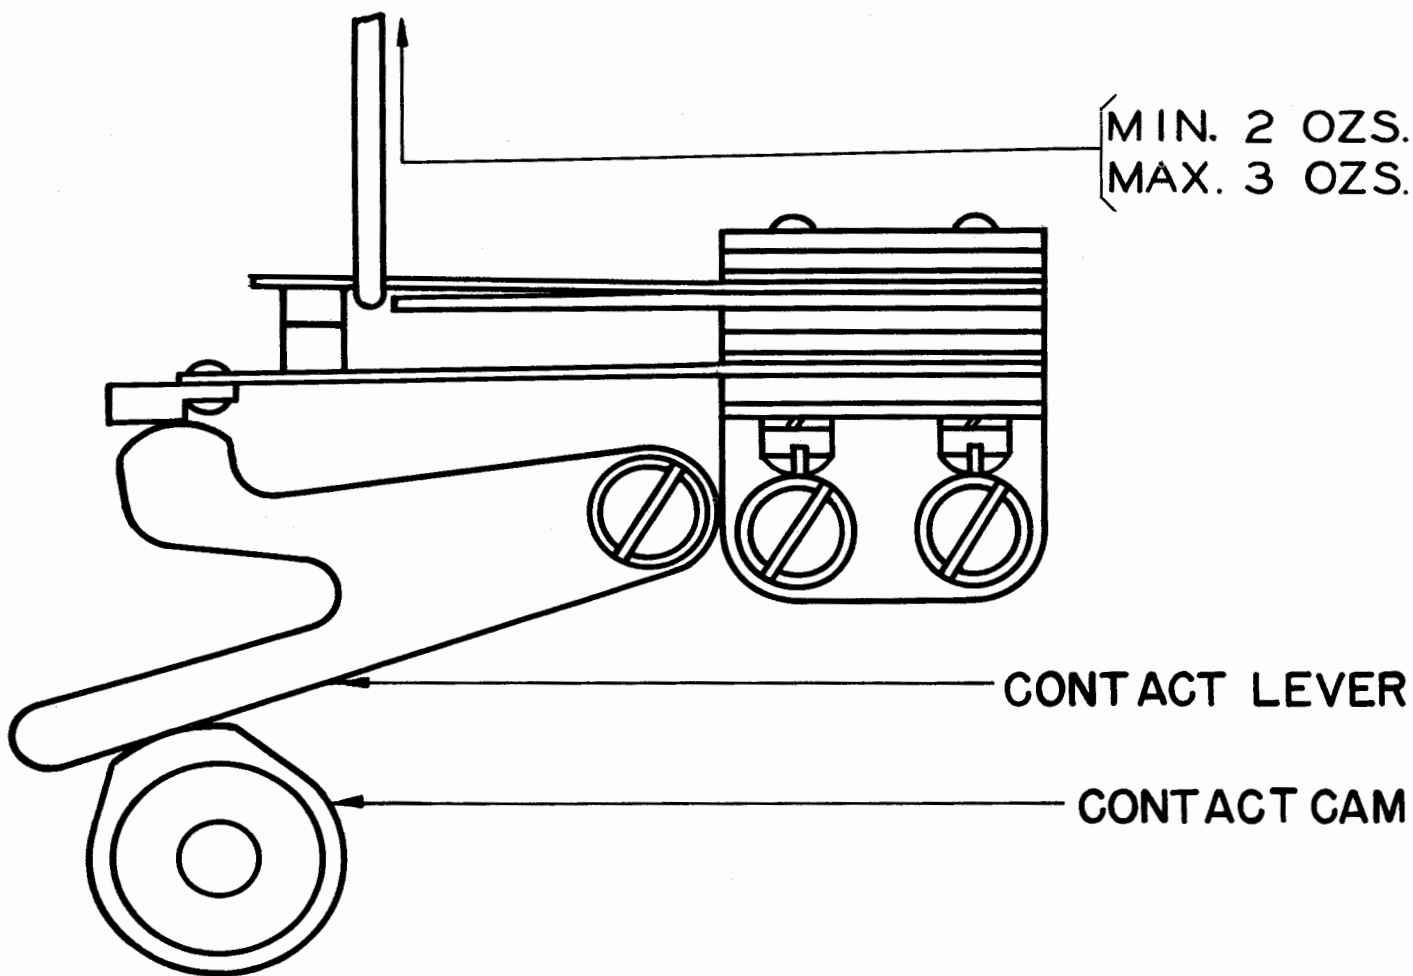

Figure 53
6.16 Signal-lamp Contact Springs should break contact when the contact lever is on the high part of its cam and a pull of minimum 2 ounces, maximum 3 ounces is applied. See Figure 53.
6.17 Signal-lamp Contacts should just close when the indicator arm points to 65 on the counter dial and the indicator shaft should have not more than 0.004 inch endplay. Gauge by eye and feel. See Figure 53.
7.08 Counter-unit Signal-lamp Contacts should just close when the indicator arm points to 63 on the counter dial and the indicator shaft should have not more than 0.004 inch endplay. Gauge by eye and feel. See Figure 53.